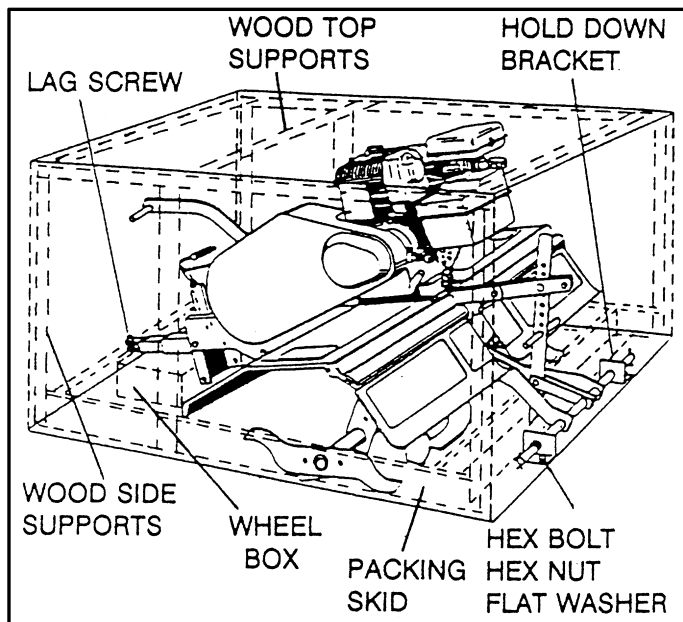

FIG. 1
- Cut from top to bottom all four corners of the carton and lay panels flat. (See Fig:1)